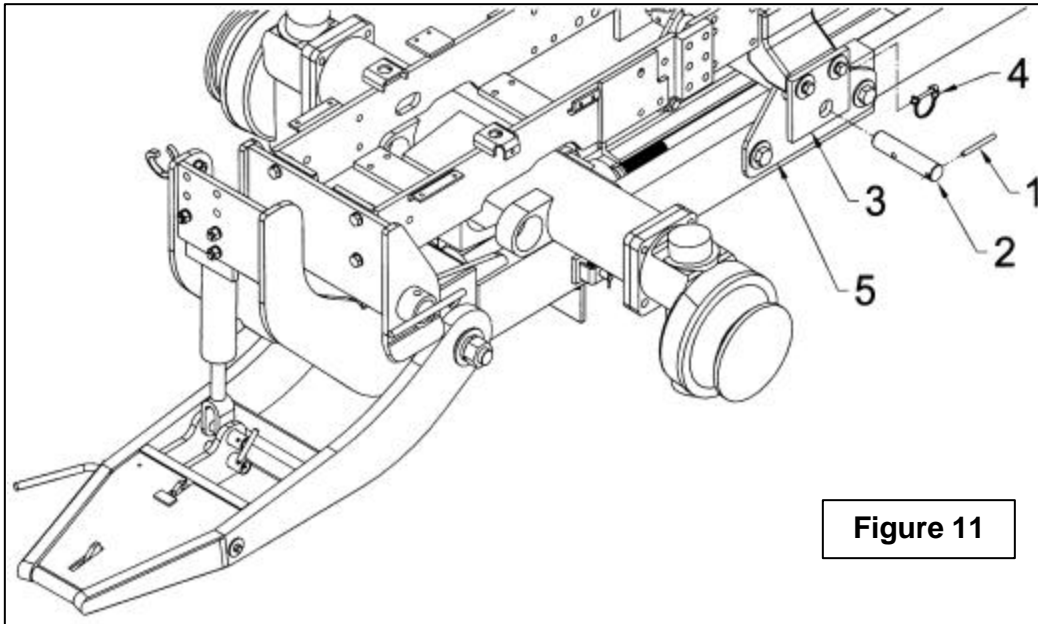

Figure 11
## Étape 5: (Figure 11)
- Remove the two 1/4" round lock pins (fig. 11, item 4) and the two  $\varnothing 1\ 1/4"$  x  $5\ 3/4"$  pins (fig. 11, item 2).
- Sit on the tractor seat and start the engine. Raise the male quick hitch using the tractor's hydraulic valve lever. Shut off the engine and insert a 3" thick wood block (item 2, not included) under the nose of the male quick hitch (item 3).
- Set the parking stand (item 1).